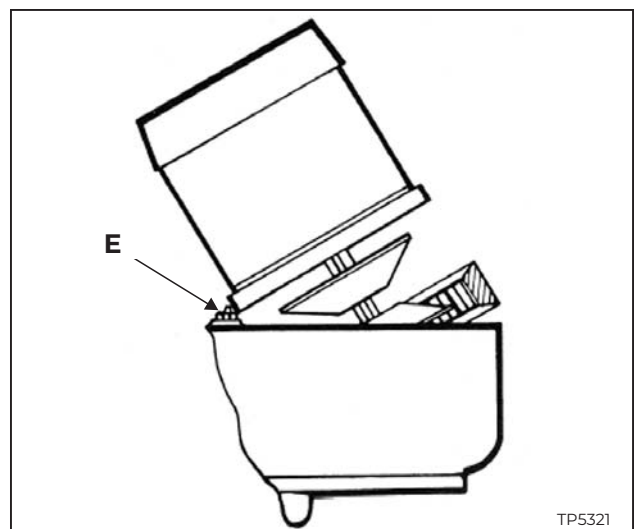

Figure 3.2 - Motor Removal Side View
8. Lift the motor and rest the case on stud "e", Figure 3.2.
3. Remove the two lower cap screws "M", Figure 3.2, from the speed chamber housing.